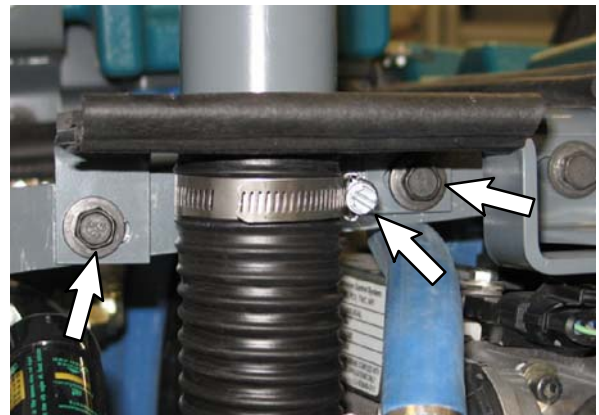

**FIG. 15**
16. Install the high rise filter assembly onto the high rise intake bracket (1). Refer to Fig. 15.